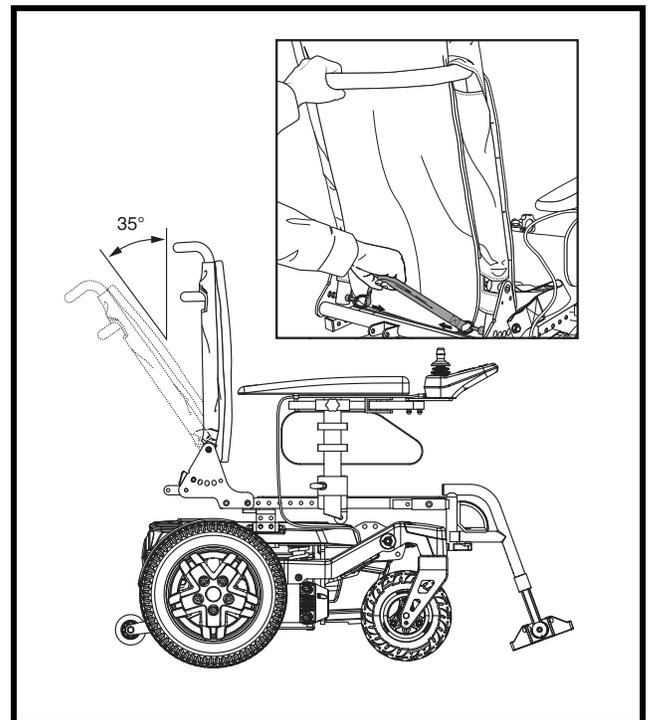

Figure 12. Manual Recline Seatback Adjustment
1. Pull the adjustment strap on the bottom portion of the seatback. **See figure 12.**